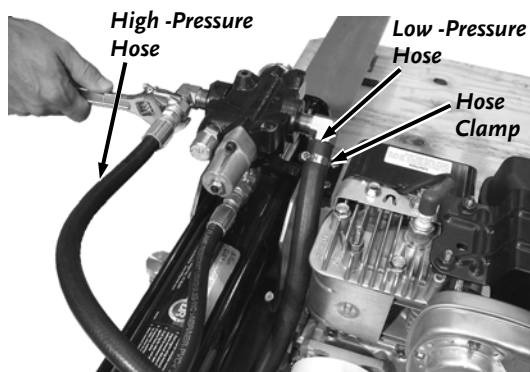

Figure 7
- Push the Low-Pressure Hose onto the Fitting (**Figure 7**).